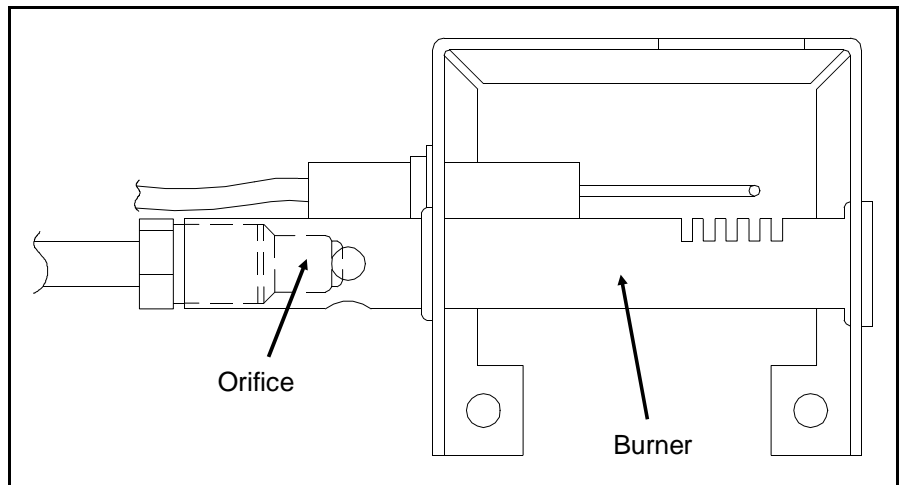

Figure 4.38 Burner and Orifice Assembly
- D. Check the burner and orifice for obstructions, abnormal corrosion, spider webs, etc. as shown in Figure 4.38. See back of section for earlier versions.